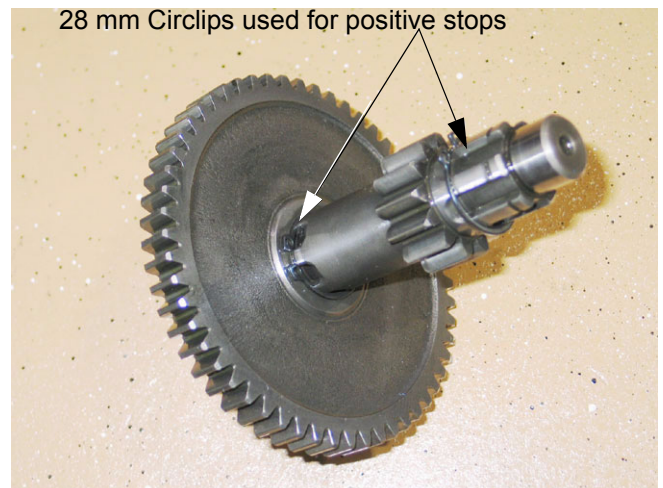

Figure 9.50
9.50. Clean and inspect the reduction shaft and 55-tooth gear. 28mm circlips are used as positive stops to position the gears on the shaft. If they are suspect, replace them. Otherwise they are best left undisturbed. See Figure 9.50.